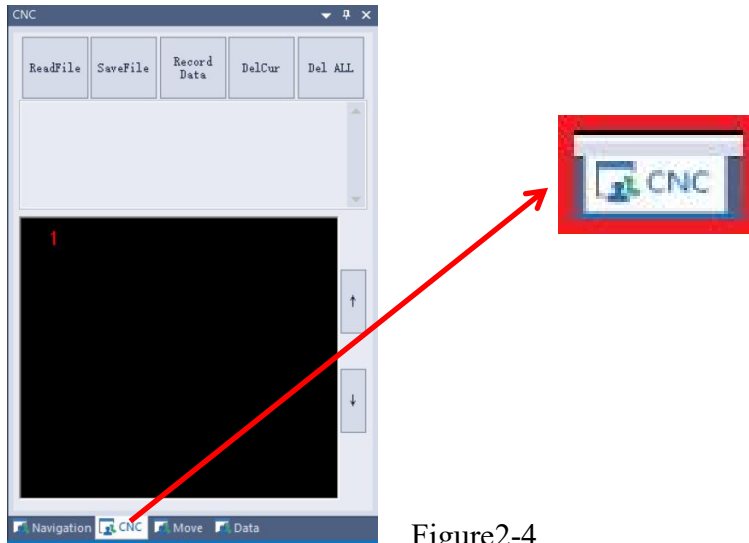

Figure2-4
Step 2: Click CNC as below Figure 2-4
Step 2: Click CNC, as in Figure 2-4.